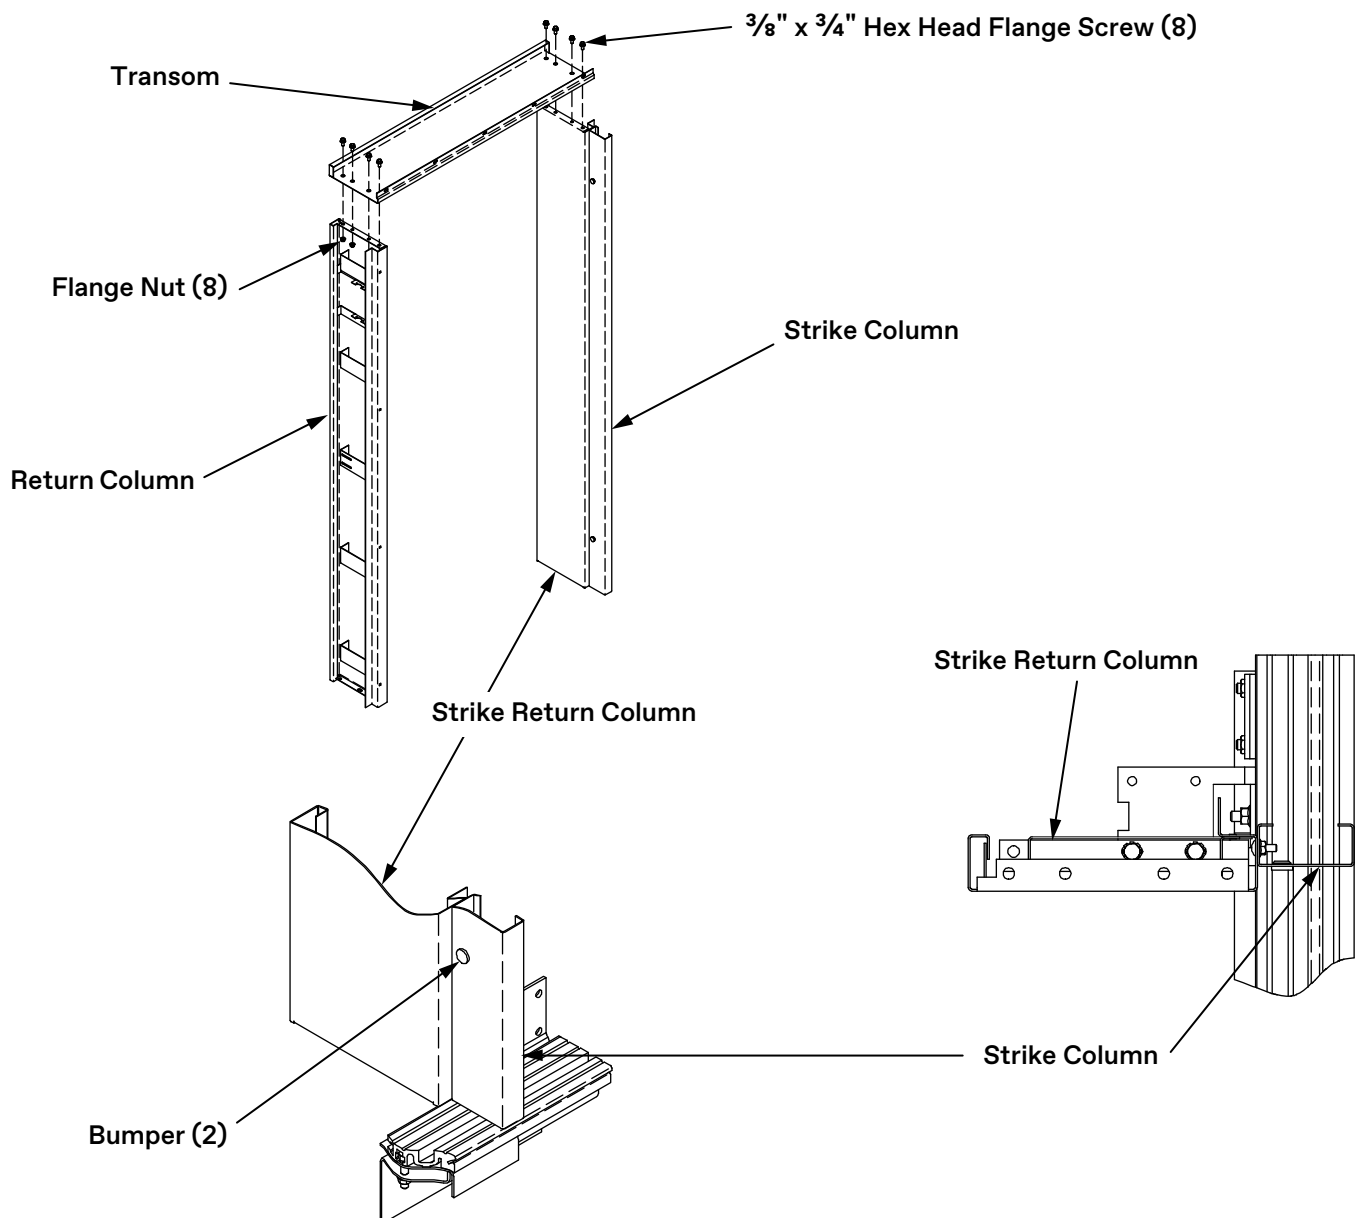

Figure 6 - Assemble Entrance Frames
2. At a landing, assemble the entrance frame face down on cardboard or carpet in front of the opening. See Figure 6.